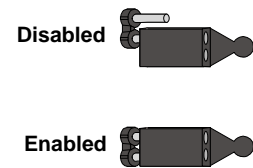

Figure 40: DX4010 P2/P3 Jumper Pin Settings
4. Plug the connector end of the cable onto the panel PCB. See Figure 40 for details.
The diagnostic LEDs can be used for troubleshooting purposes. See *Figure 40* for jumper plug placements.